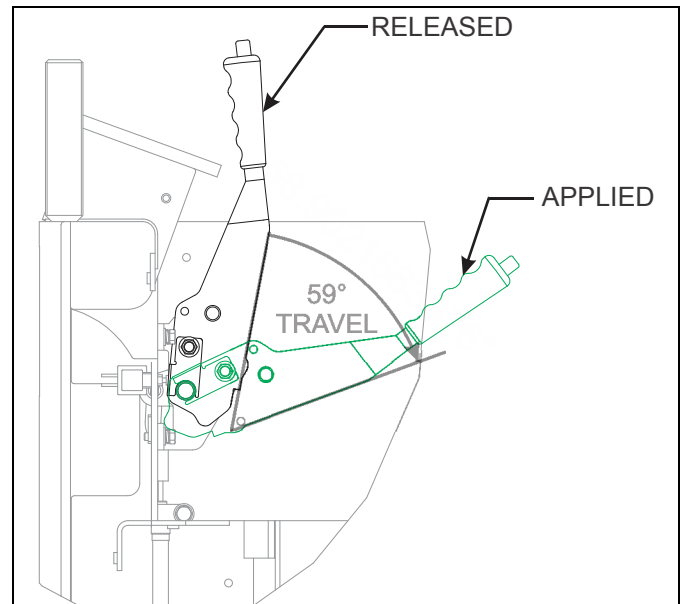

Figure 3-13: Parking Brake Travel
- Pull back on the parking brake lever as far as possible using moderate force (See Figure 3-13). The amount of horizontal travel should allow the lever to snap into the near full horizontal position. The right front wheel should not turn when attempting to turn by hand.